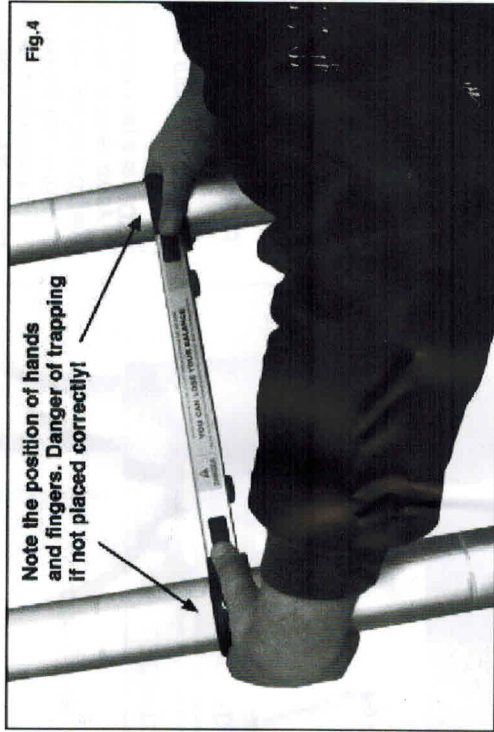

Fig.4
- 2) Stand facing the ladder, and with outstretched arms, put your hands around the side rails with your thumbs placed on the locking levers. **CAUTION! Danger of trapping fingers!** Do **Not** place your fingers/hands on or inbetween the ladder rungs! (see Fig.4). Now press both levers towards the middle to release that pair of locking mechanisms allowing the ladder to lower. Repeat this method for all the other rungs.